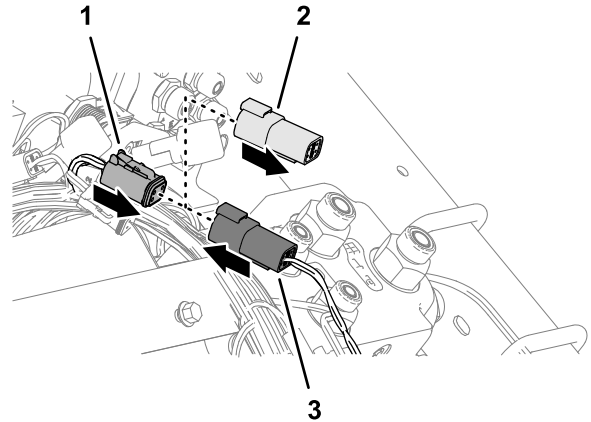

Figure 46
4. Remove the cap from the 4-pin connector GeoLink wire harness labeled CAN 1 ISOBUS (Figure 46).
5. Plug the 4-pin connector of the kit wire harness labeled ISOBUS CONNECTION into the 4-pin connector labeled CAN 1 ISOBUS (Figure 46).